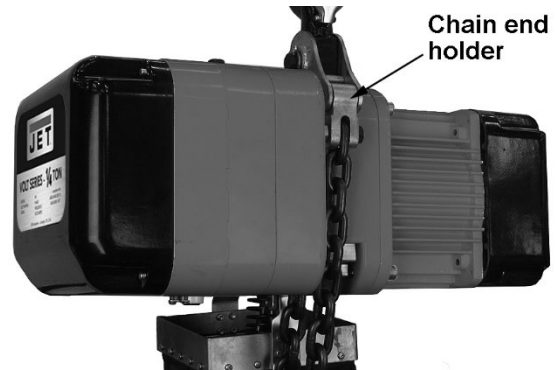

Figure 15
8. Place the first link of the new chain into the load side end holder (Figure 15). Be sure there is no twisting of chain between last chain sprocket and load side end holder.